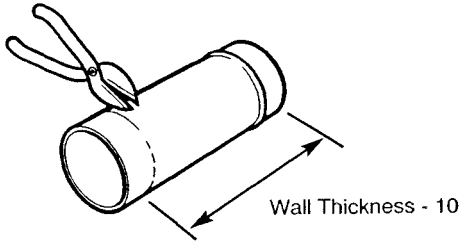

Fig. 64
5. Mark off the dimension, wall thickness - 10mm (³/₈ in), measuring from the beaded end of the duct and cut off the remaining length of the duct. Ensure that the cut is square and reasonably straight (Fig. 64).